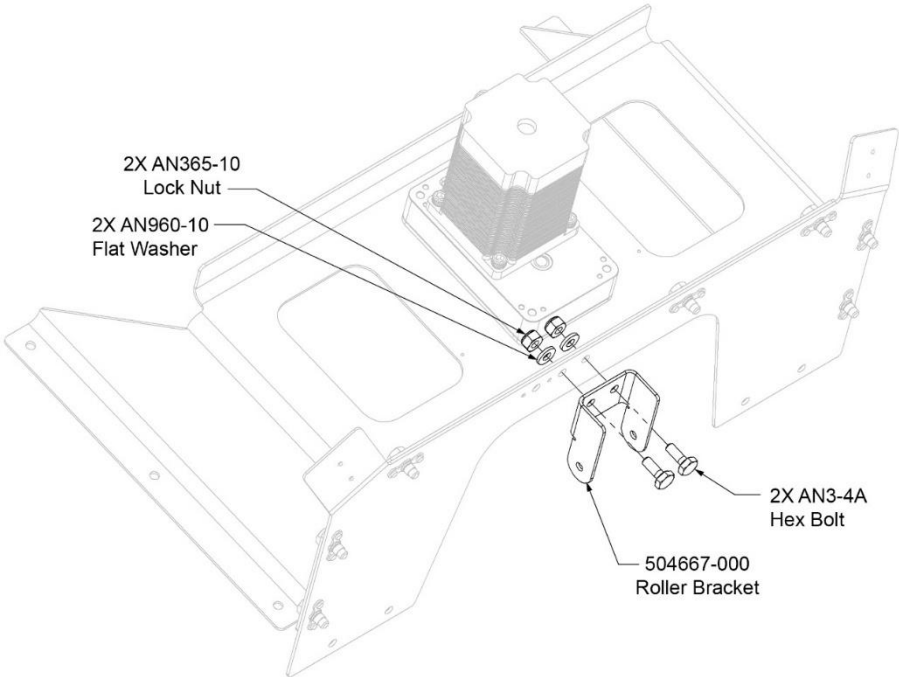

Figure 8: Attaching Roller Bracket to Bracket Assembly
- 12. Attach roller bracket to bracket assembly, as shown in Figure 8.